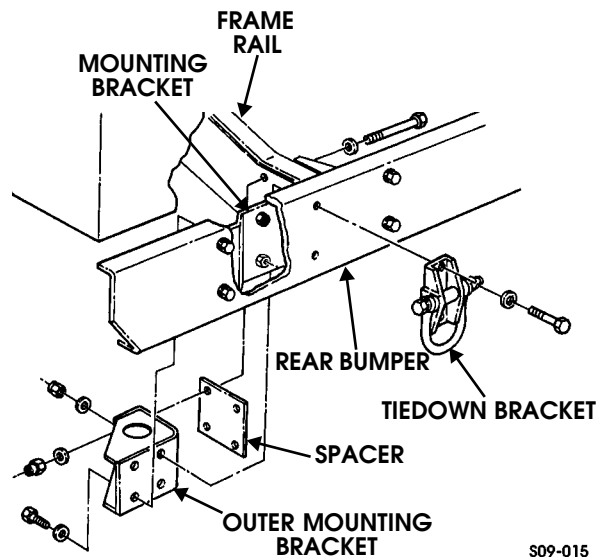

Figure 9-136: Rear Bumper Mounting Bracket Replacement
2. Remove two locknuts, washers, bolts, and washers securing tiedown bracket and outer mounting bracket to mounting bracket and rear bumper (Figure 9-136).
1. Install spacer and outer mounting bracket on frame rail and inner mounting bracket with four washers, bolts, washers, and locknuts. Do not tighten locknuts (Figure 9-136).